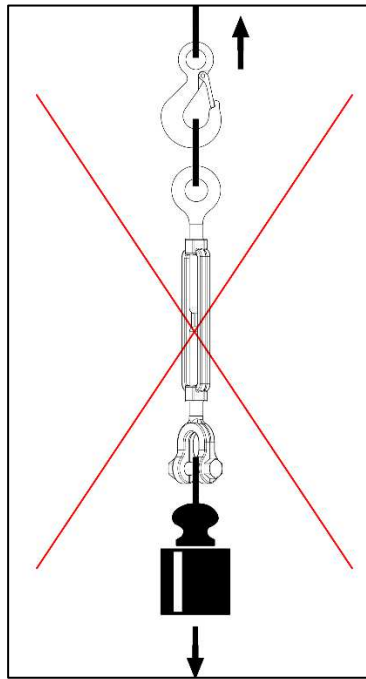

Fig.4
The turnbuckle can also be used for lifting operations, if it is not a single pull (par.10 fig.4). In these conditions, infact, the load can rotate freely, generating the risk that the terminals will unscrew until escape from the turnbuckles, with consequent fall of the load.
- DO NOT use the single pull lifting accessory (Fig.4);